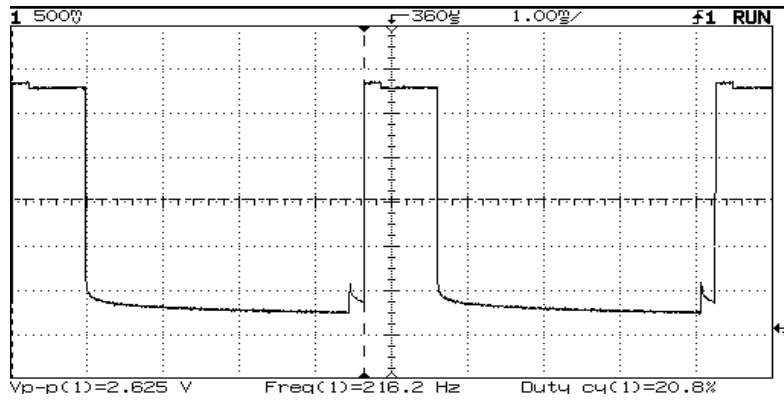

Fig.3.5 V\_P\_LNA
2. **V\_P\_LNA** ( 2.85V supply which powers the PCN LNA and TX/RX switching diode pack: D401). See figure 3.5.